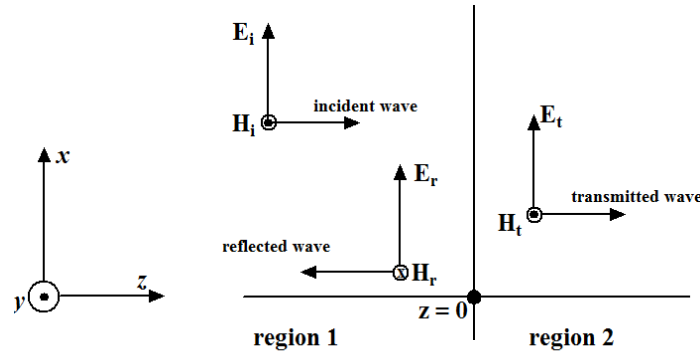
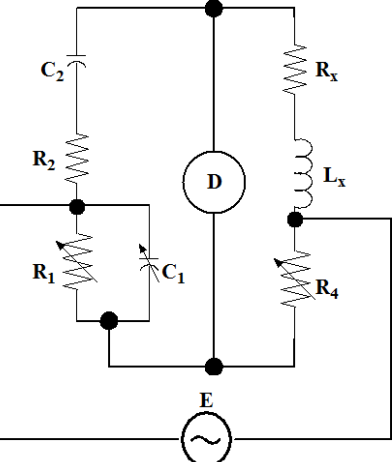
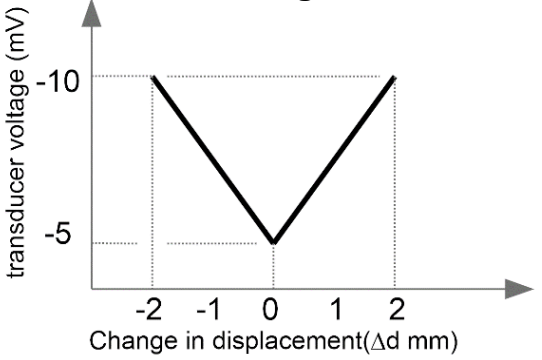
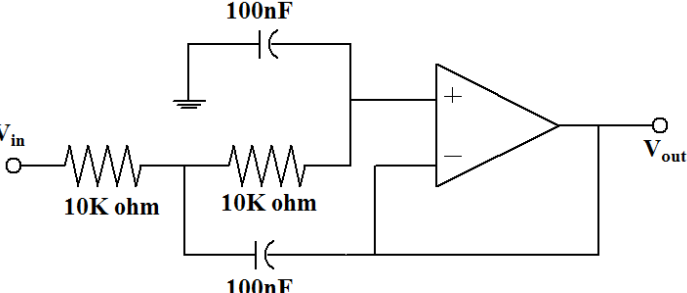

Fig. 1C
Fig. 2A
Fig. 3B
Fig. 4A
- 1C.** For a uniform plane wave propagating along the positive z-axis as shown in Fig 1C, assuming both the mediums to be perfect dielectrics, for a normal incidence, prove with appropriate explanations that:
- b) $H_{to}/H_{io} = \tau = [2\sqrt{\epsilon_2}] / [\sqrt{\epsilon_1} + \sqrt{\epsilon_2}]$ (04)
- 2A.** An AC Bridge as shown in the Fig 2A, is used to measure an unknown inductance L_x , which has inherent resistance R_x . The bridge parameters are $R_1 = 20\text{ k}\Omega$; $R_2 = 50\text{ k}\Omega$; $C_2 = 0.0037\mu\text{F}$. The operating frequency $\omega = 10^5\text{ rad/sec}$. C_1 is adjustable from 10pF to 150pF and R_4 is adjustable from 0 to 10kΩ. Derive expressions for R_x and L_x to show that resistive and reactive balance are independent of each other. Also determine the largest values of R_x and L_x that can be measured with given parameters. (03)
- 2B.** In an electrodynamic instrument the total resistance of voltage coil circuit is 8.2kΩ and mutual inductance changes from -173μH at zero deflection to +175μH at full scale deflection of 95°C. If 100V potential difference is applied across voltage circuit, current of 3A at a power factor of 0.75 is passed through current coil. What will be the deflection if the spring constant is $4.63 \times 10^{-6}\text{ N-m/rad}$. (03)
- b) Plot the variation of ' E_r ' v/s ' r ' if $E_{r_{max}} = 100\text{ V/m}$. (04)
- 3A.** With a neat diagram, explain and develop the mathematical model of a potentiometer having a load of resistance R_m . Let the total resistance of the potentiometer be R_p . (03)
- 3B.** Design and sketch a suitable signal conditioning circuit for a transducer whose characteristics is given in Fig. 3B such that the output needs to be in range of 0 – 10 V for change in displacement (Δd). Also find the output voltage for a change in displacement $\Delta d = 1.5\text{ mm}$. (03)
- 3C.** Design a charge mode amplifier circuit with signal conditioning for a pressure based piezo-electric transducer such that the output voltage from the setup is in the range of 0 - 5V for an input pressure range of 0 – 10 N/m². The output voltage is to be realized for a frequency band of 59Hz to 318Hz. The pressure-charge sensitivity of piezo material is 13.5 pC/Nm². Piezo shunt resistance and capacitance is 10GΩ and 4nF respectively. The connecting cable capacitance is 1nF. Assume the charge amplifier feedback resistance to be 10kΩ. (04)
- 4A.** It is proposed to employ an active filter as depicted in Fig. 4A in an audio amplifier. From the fundamentals, derive the mathematical model of the proposed filter and identify its type. Further, determine the cutoff frequency/frequencies and the quality factor. (03)